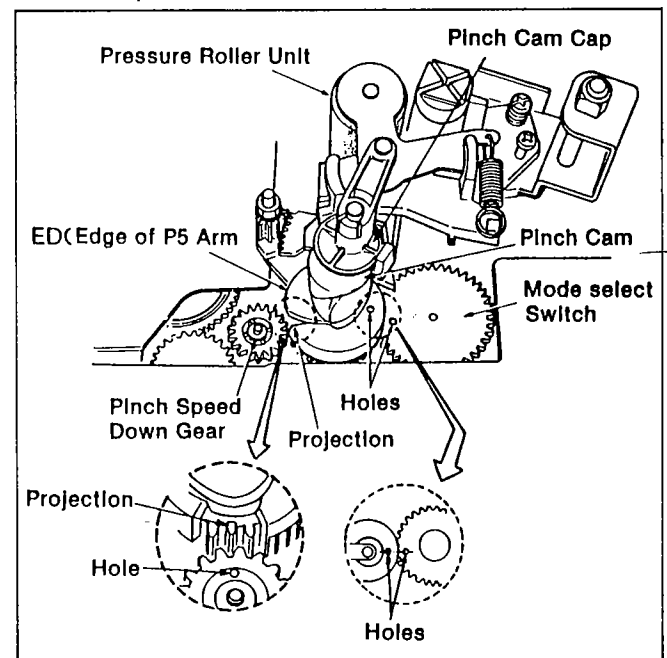

Figure M52
1. Install the Pinch Cam while pushing the P5 post forward. The Pinch Cam Gear should drop to a seated position. In this position make sure hole in the Mode Select Switch aligns with small hole on the Pinch Cam, also the small rift on the Pinch Cam should align with the hole on the Pinch Speed Down Gear as shown in Figure M52.